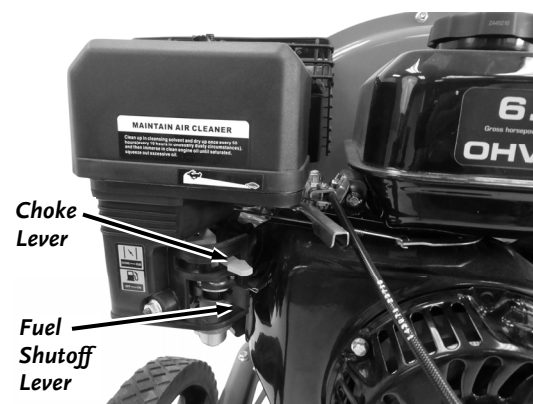

Figure 8
1. Make sure the Fuel Shutoff Lever is in the “ON” position (**Figure 8**).
6. As the engine warms up, slowly adjust the Choke to the right towards the “RUN” position(**Figure 8**). Wait until the engine runs smoothly before each Choke adjustment.
4. As the engine warms up, slowly adjust the Choke to the right towards the "RUN" position (**Figure 8**). Wait until the engine runs smoothly before each Choke adjustment.